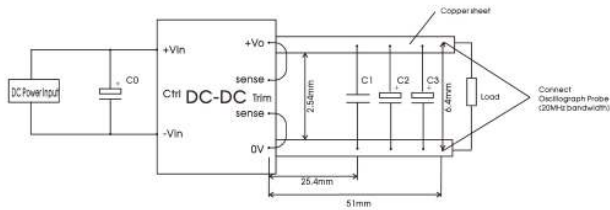

Fig.1
*Ripple & Noise for 48VDC output at 0%Io-100%Io load ≤ 400mV, others outputs at 0%Io-100%Io load ≤ 300mV, the measuring method of ripple and noise, please refer to Fig. 1
All the DC-DC converters of this series are tested before delivery using the recommended circuit shown in Fig. 1.